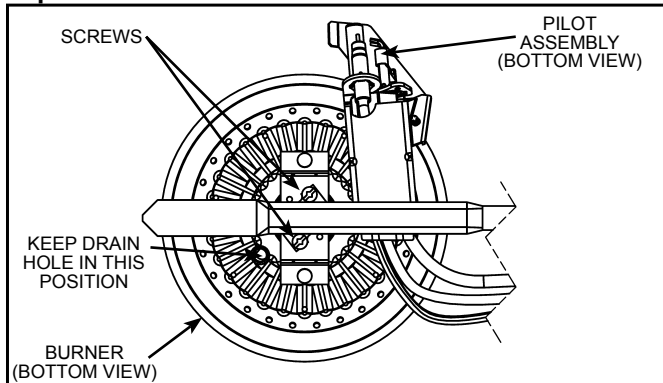

Figure 35
- Take off the burner by removing the two (2) screws located underneath the burner.
- Check the burner to see if it is dirty or clogged. The burner may be cleaned with soap and hot water (see Figure 35).
- When replacing the burner, ensure the drain hole is in the position shown in Figure 35.
- Remove the burner to access the pilot/thermopile assembly. Remove and keep the screws securing the burner to the manifold (see Figure 35).